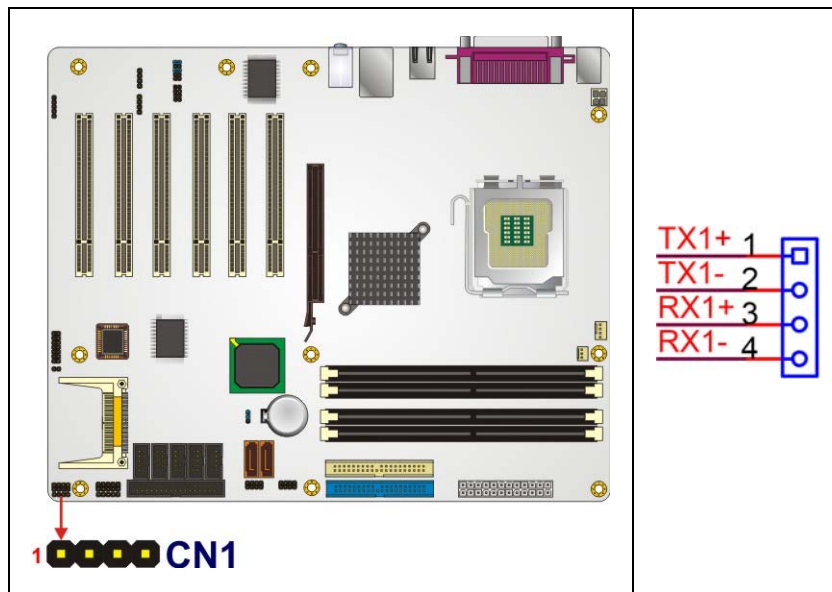

Figure 4-19: Serial Port Connector (RS-422/485) Pinout Locations
- CN Location:** See **Figure 4-19**